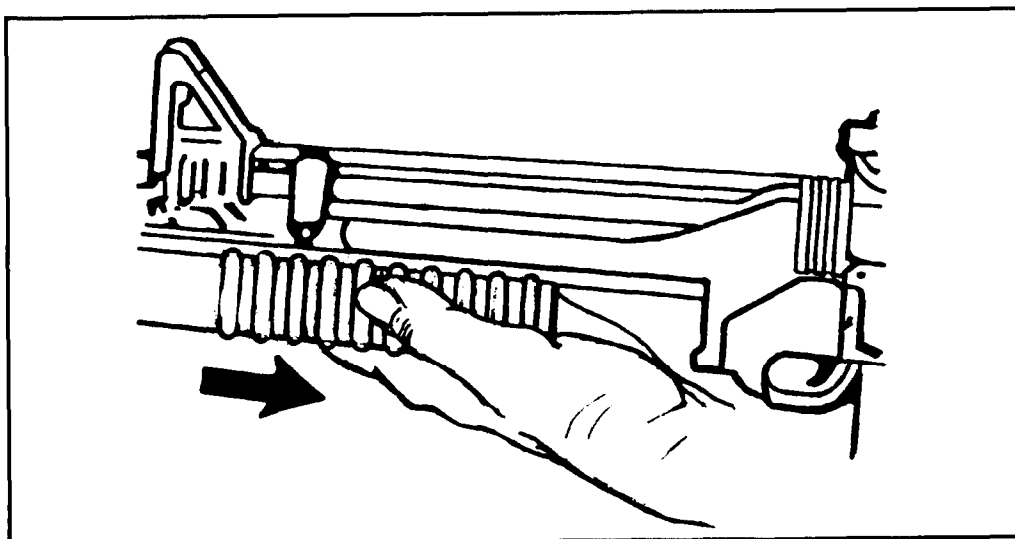

Figure 3-20. Locking the barrel.
b. Lock the barrel by moving it rearward until it closes with a click (Figure 3-20).